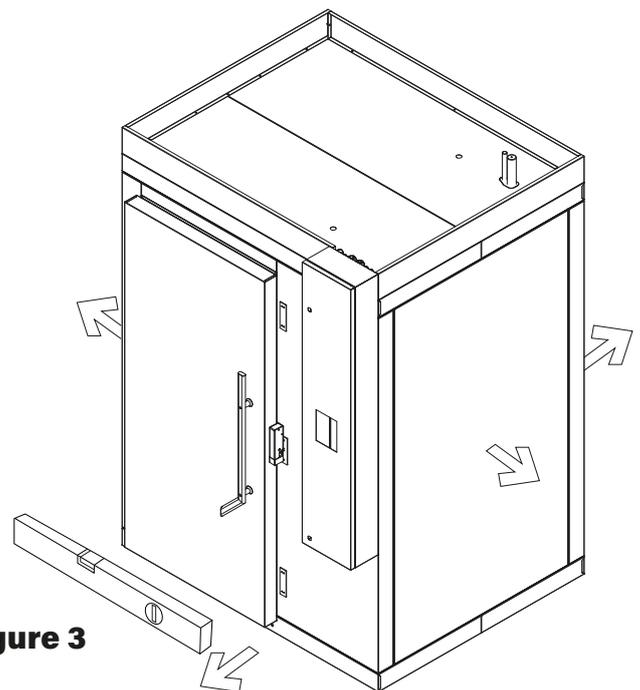

figure 3
- To act on the feet if the machine is equipped with adjustable feet (screwing or unscrewing them) until it is level; any other installation solution must be agreed and approved by the manufacturer (figure 3).